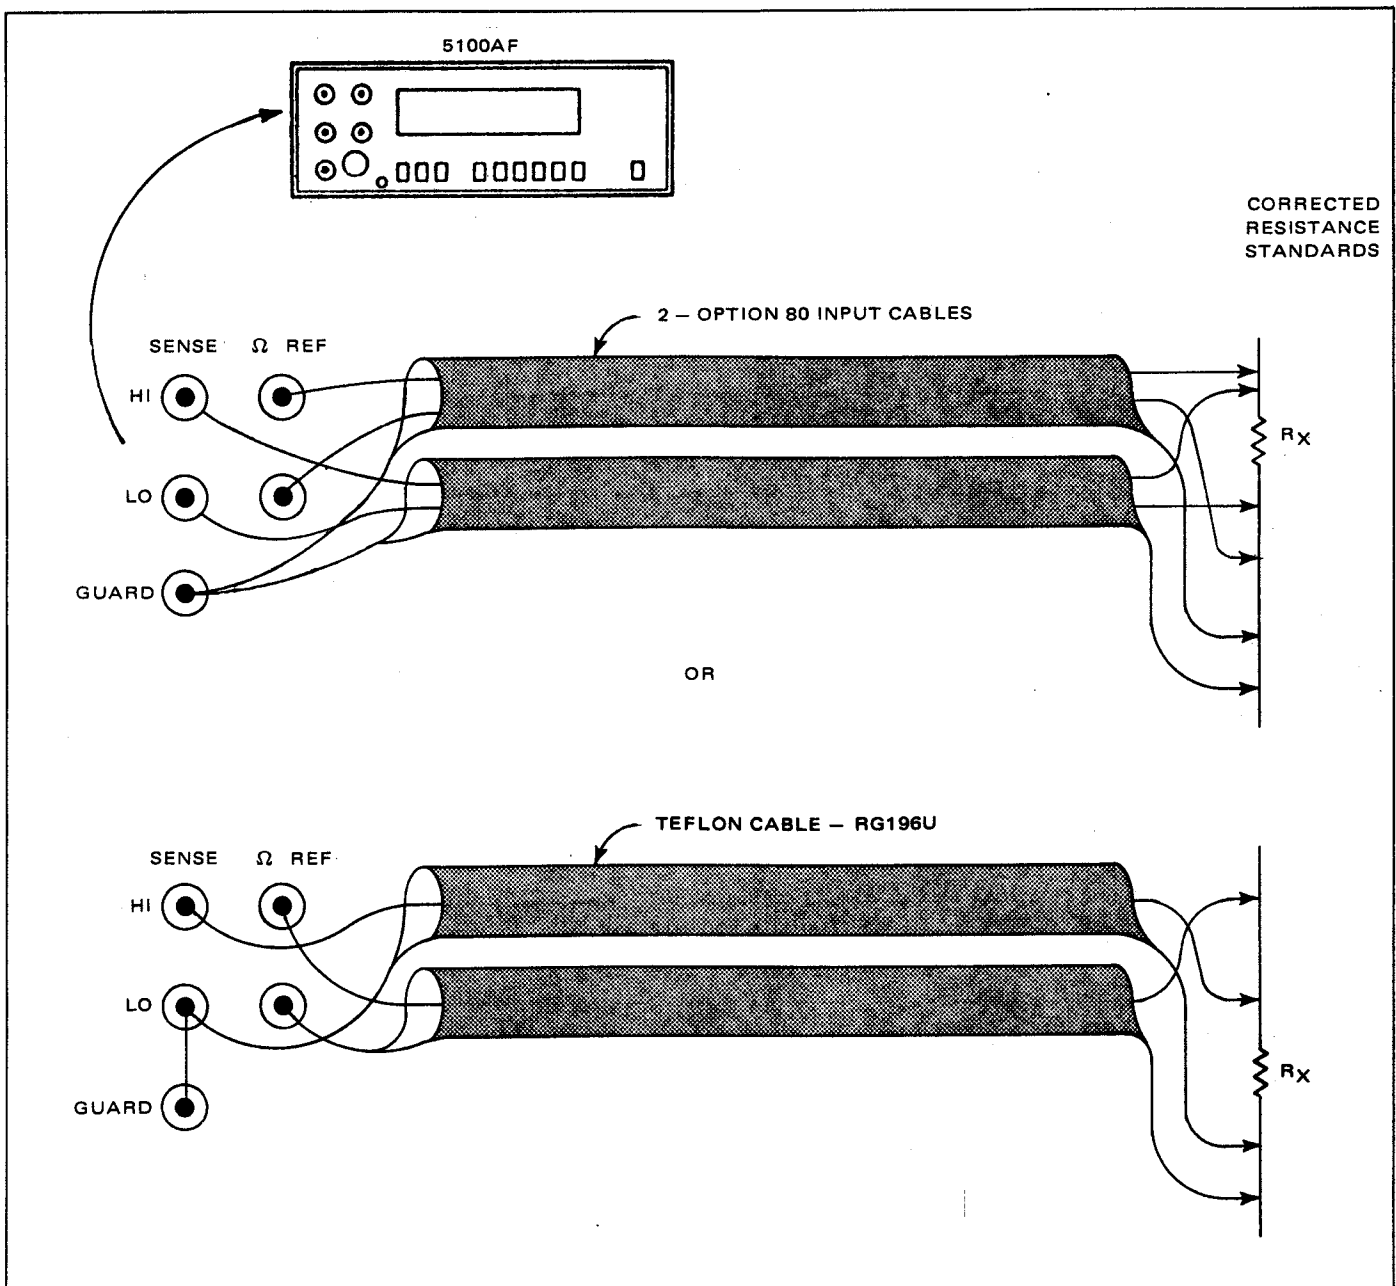

Figure 5.6 - Ohms Measurement Connection
- Select the Kohms function and the 10 Kohm range. Connect the DMM to a 10 Kohm resistance standard using a 4-wire, low leakage cable as shown in figure 5.6.